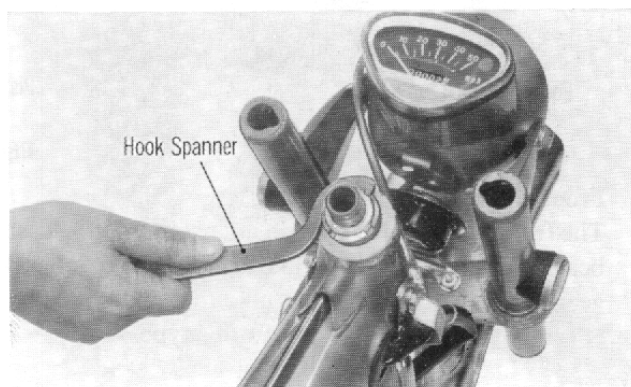

Fig. 61
**When removing the front fork care should be taken not to drop and miss the #6 steel balls (Fig. 61).**